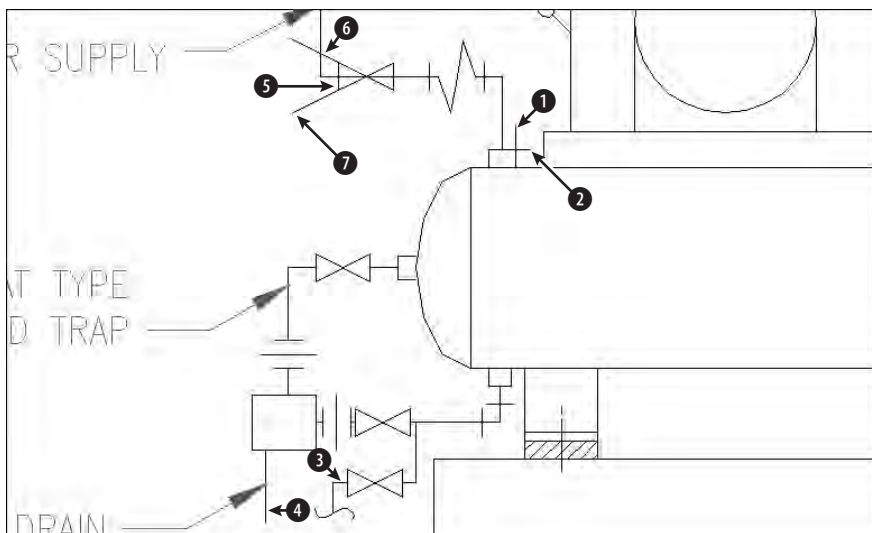
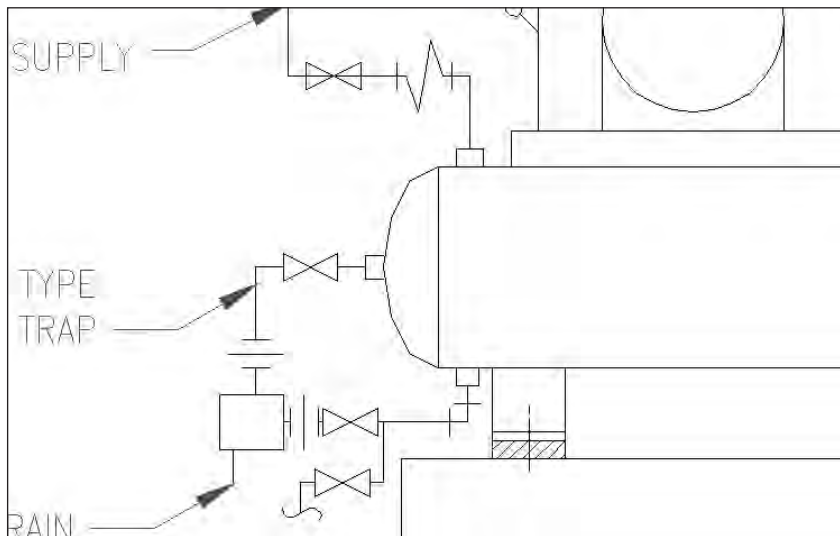

Figure 10-16: A schematic of an air compressor
Figure 10-17: The completed clamp in two views
2. Save the file as `ab10-05.dwg` in your AutoCAD Bible folder. It looks like Figure 10-16.
3. Start the TRIM command. At the `Select objects:` prompt, pick lines at ❶ and ❷ in Figure 10-16 and then press Enter.
4. At the `Select object to trim or shift-select to extend or [Project/Edge/Undo]:` prompt, again pick lines at ❶ and ❷ in Figure 10-16. Be sure to pick them outside the intersection, as shown. Press Enter to end the command.
5. Choose Trim on the Modify toolbar again. At the `Select objects:` prompt, pick the line at ❸ in Figure 10-16 and press Enter.
7. Pick the line at ④ in Figure 10-16. AutoCAD trims the line. Press Enter to end the command.
8. Start the **TRIM** command again. At the **Select objects: prompt**, pick ⑤ and press Enter. At the **Select object to trim or shift-select to extend** or **[Project/Edge/Undo]: prompt**, pick the lines at ⑥ and ⑦. Press Enter to end the command.
9. Save your drawing. It should look like Figure 10-17.